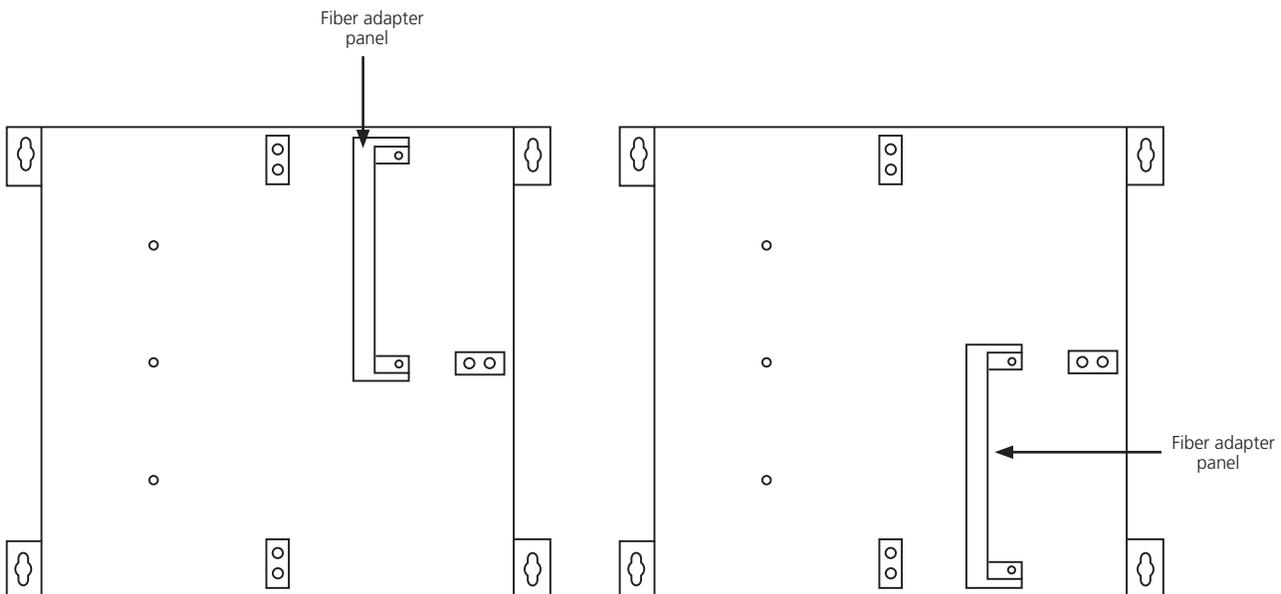

Figure 6. Position the fiber bracket on the top or bottom.
10. On the right side of the enclosure, you can mount up to two fiber adapter panels. If you need more space for fiber splicing, remove the internal bracket. The fiber bracket can be positioned on the top or bottom—see Figure 6.